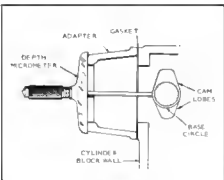

FIGURE 3-49 MEASURING DEPTH FOR SHIM THICKNESS
2. Determine shim thickness required between pump and adapter because the new gasket may not be the same thickness as the original one. See Figure 3-49
1. Rotate crankshaft to position camshaft so that the pump rollers contact the camshaft base circle (low point of the pump cam lobes). One lobe should be up, the other lobe down. See Figure 3-49